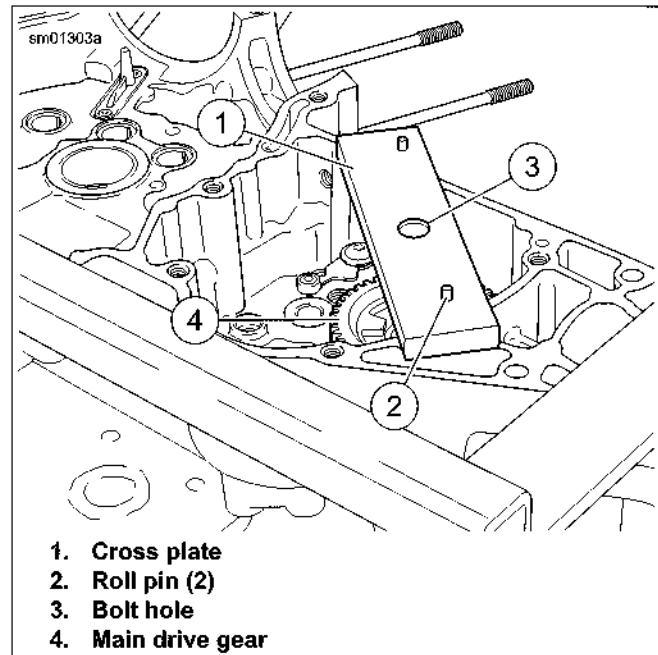

Figure 5-43. Positioning Cross Plate
3. Obtain MAIN DRIVE GEAR REMOVER AND INSTALLER SET (Part No. HD-35316-D). See Figure 5-43. Position CROSS PLATE (Part No. B-45847) (1) on right crankcase as shown. Position so roll pins (2) fit into crankcase mating screw holes and center bolt hole (3) over main drive gear (4).